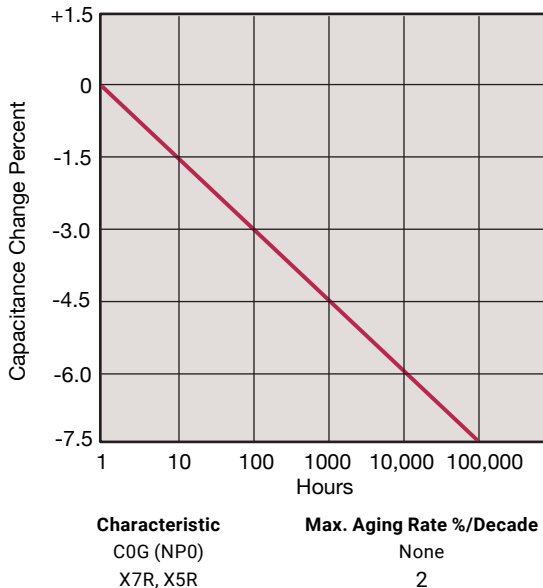

Figure 4
**Effects of Time** – Class 2 ceramic capacitors change capacitance and dissipation factor with time as well as temperature, voltage and frequency. This change with time is known as aging. Aging is caused by a gradual re-alignment of the crystalline structure of the ceramic and produces an exponential loss in capacitance and decrease in dissipation factor versus time. A typical curve of aging rate for semistable ceramics is shown in Figure 4.